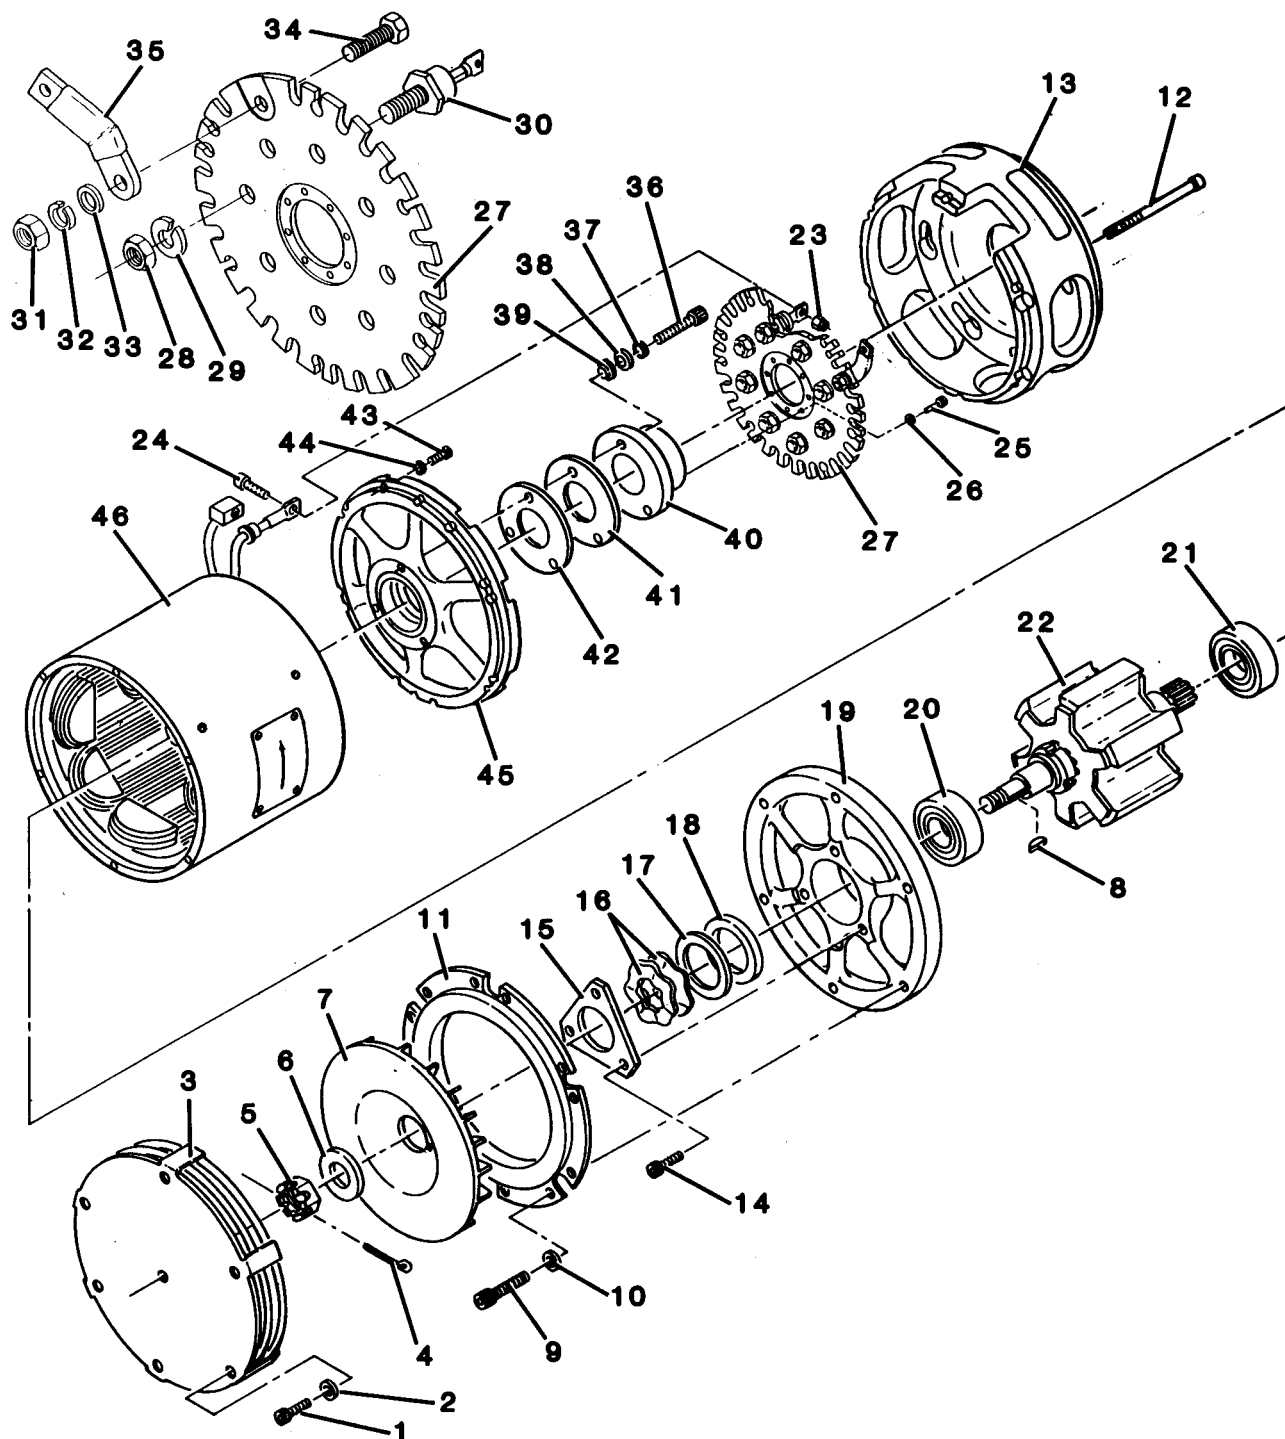

Figure 5-5. 10kW Generator Assembly (Sheet 1 of 2)
(16) Matchmark fan cover (3, figure 5-5), ring shroud (11), fan end bell (19), stator housing (46), mounting end bell (45), and mounting flange (13).
(17) Remove capscrews (1, figure 5-5), lockwashers (2), and fan cover (3).
(18) Remove cotter pin (4) from nut (5).
(19) Secure shaft of armature (22) to prevent turning.